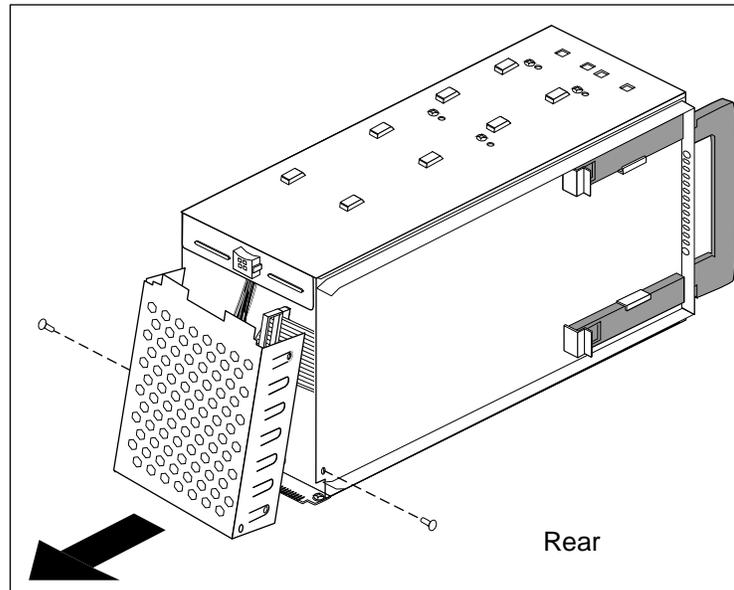

Figure 7-8 Removing the Rear Access Plate from the Peripheral Carrier
2. Remove the rear access plate from the peripheral carrier, as shown in Figure 7-8.